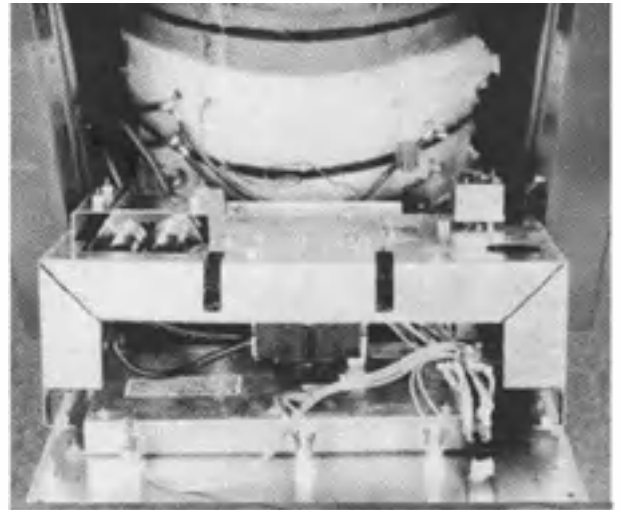

FIG. 4
6. Remove the four (4) screws securing relay panel to side panels and save for reuse. Lower panel slowly until secure (See Figure 4).